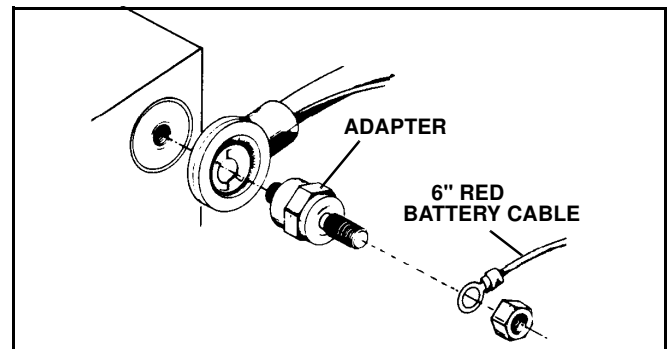

Figure 1-3
4. Attach the other end of the 6" long power wire to the positive terminal of the battery. (See Figure 1-3).
*NOTE: An adapter is recommended for vehicles with a side post battery. (See Figure 1-3). (Adapters can be purchased from your Sno-Way dealer, Part #96100773.*